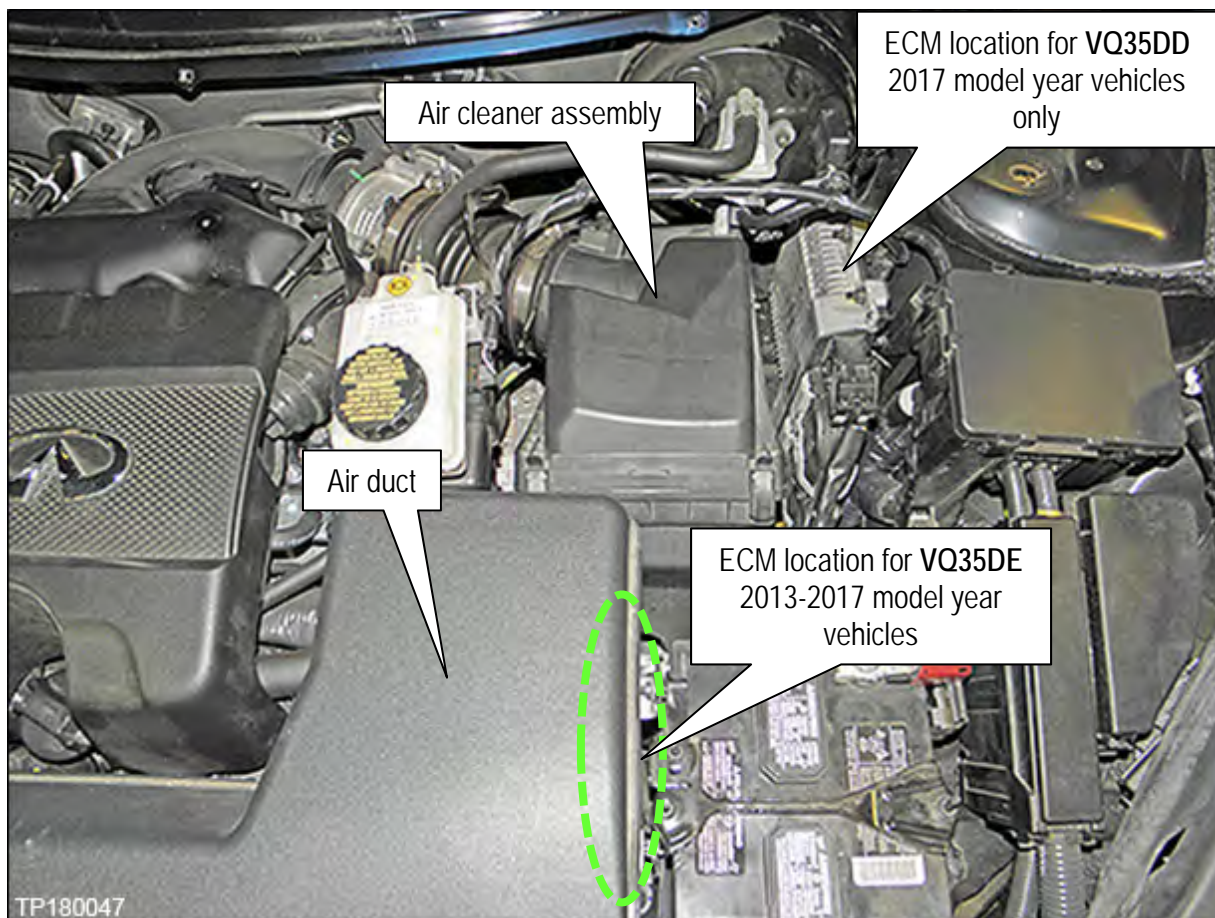

Figure 21
24. Remove the front air duct and the air cleaner assembly (Figure 21).
25. For 2017 model year vehicles with **VQ35DD** engine, disconnect and remove the ECM shown in Figure 21.